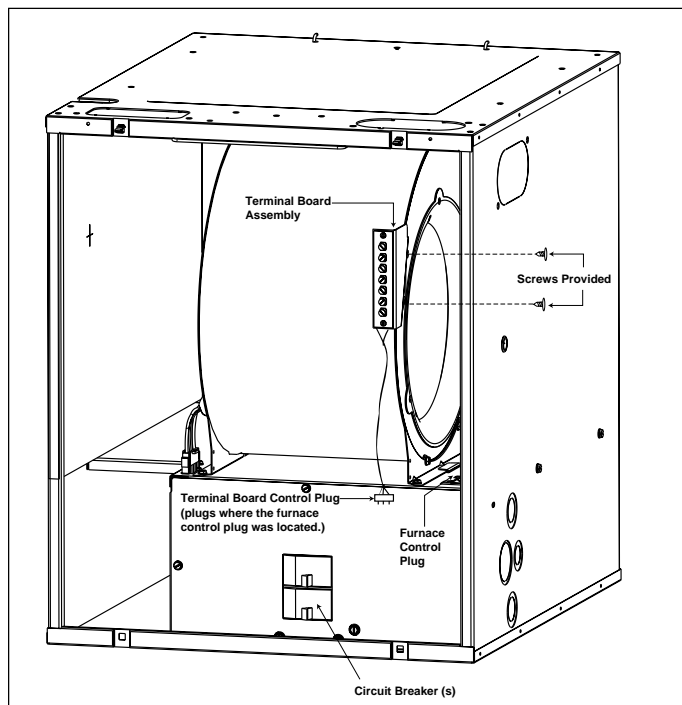

Figure 1. E1EB Furnace
1. Switch the circuit breaker(s) to the OFF position (see Figures 1 or 2).
2. Attach the terminal board assembly to the right side of the blower with the two screws provided (see see Figures 1 or 2).
3. Remove the control plug (6-pin matrix) from the blower deck of the furnace and then fasten the plug on the terminal board wires to where the control plug was (see Figures 1 or 2).